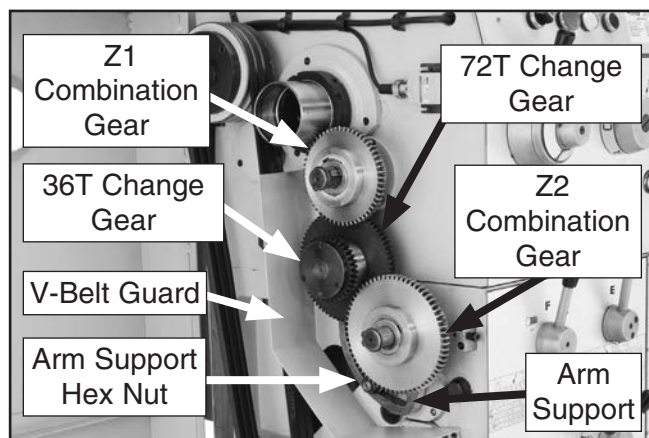

Figure 84. Arm support and gear locations.
4. While holding the 36T and 72T change gears, loosen the arm support hex nut (see **Figure 84**).
5. Slowly let the gears pivot down until they rest against the V-belt guard (see **Figure 84**).